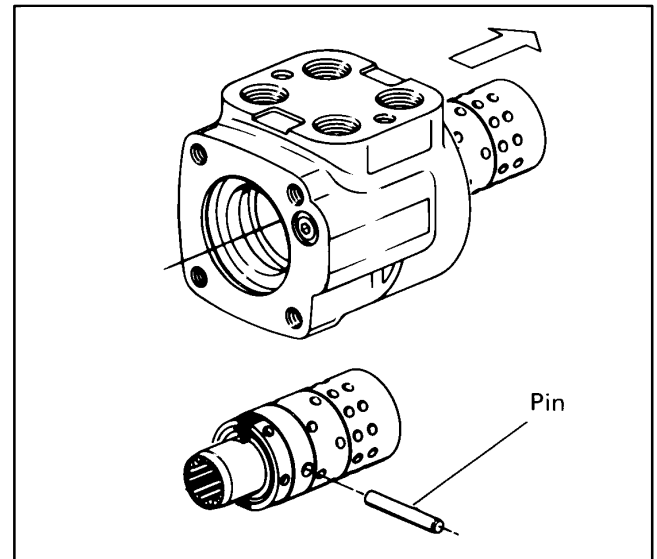

Figure 34
16. Remove spool and sleeve assembly from 14-hole end of housing, see Fig. 34.